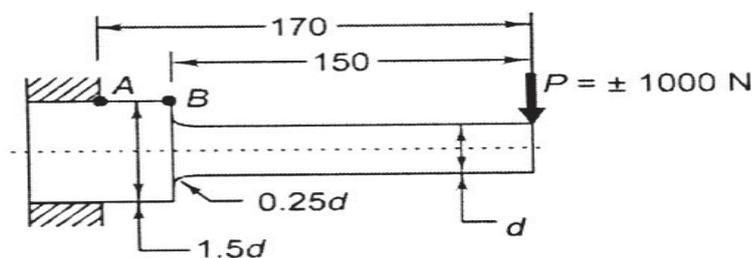

Fig 2.
- b) A cantilever beam made of cold drawn steel 20C8 ($S_{ut} = 540 \text{ N/mm}^2$) is subjected to a completely reversed load of 1000 N as shown in Fig 2. The notch sensitivity factor 'q' at the fillet can be taken as 0.85 and the expected reliability is 90%. Determine the diameter 'd' of the beam for a life of 10000 cycles. Assume surface finish, size and reliability factors are 0.78, 0.85 and 0.897 respectively. Also assume $K_t = 1.35$. [12]